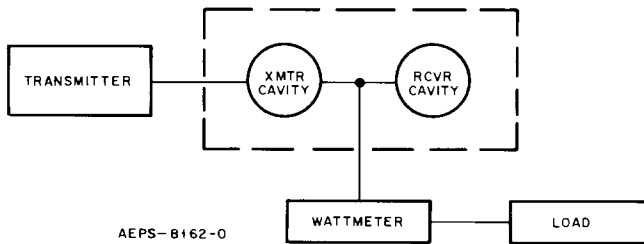

Figure 5.
Step 3. Connect the equipment as shown in Figure 5.
Step 1. Using the Recommended Test Equipment given in paragraph 5.2.1, connect the equipment as shown in Figure 5.